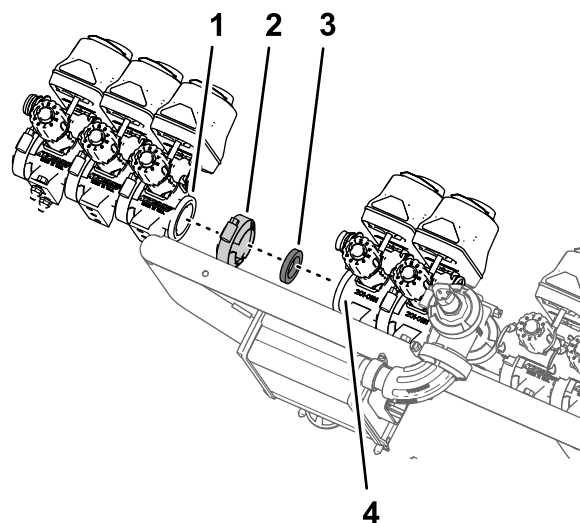

Figure 103
1. Assemble the 3 section valves (Figure 103) that you removed in step 8 of Removing the Section Valves from the Manifold Mount (page 30) onto the flange of valve 7 of the sprayer valve assembly with the flange clamp and gasket that you removed in step 4 of 13 Removing the Boom-Section Valves (page 27).